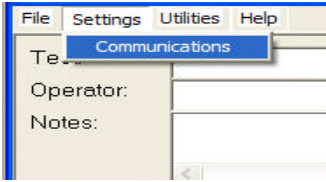

Figure 9
1. Select Communications from “Settings” on the GloRunner™ dialog box pull-down menu, and the screen in Figure 9 will be displayed.